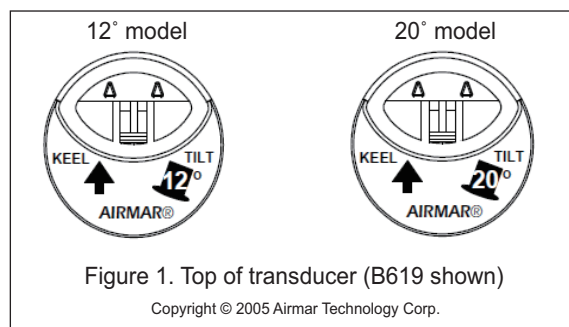
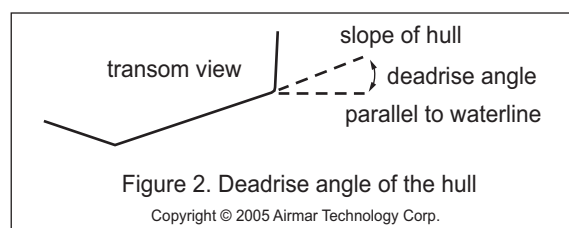

Figure 1. Top of transducer (B619 shown)
Figure 2. Deadrise angle of the hull
Be sure the tilt angle of your transducer model matches the deadrise angle of your boat at the mounting location. The tilt angle is printed on the top of the transducer (see Figure 1). To measure the deadrise angle of your hull at the selected mounting location, use an angle finder or a digital level (see Figure 2).
- 12° and 20° models** - From inside the hull, point the arrow on the top of the transducer (and the cable exit) toward the KEEL or centerline of the boat (see Figure 1). This will align the angle of the element inside the transducer with the deadrise angle of your hull.